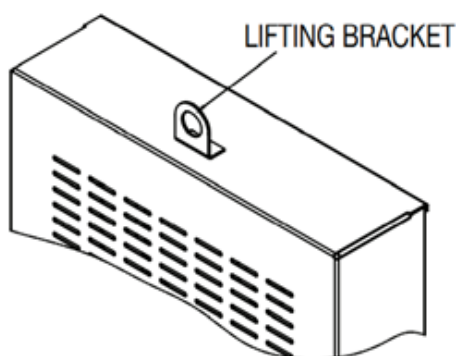

**Figure 7 - Motor Slide Installation**
6. Install the v-belt sheaves according to the manufacturer's instructions. Slide the motor slide plate as needed during the tensioning of the belts. After the motor has been moved to the final position during belt tensioning, slide the motor slide plate to clear the motor shaft and key equally around the shaft opening in the motor shaft guard. Rotate the motor shaft, if possible, to ensure the key does not contact the guard. See Figure 7. Tighten the motor slide plate mounting screws.